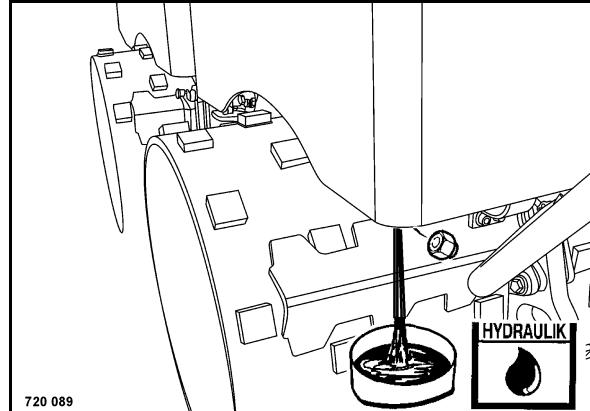

Fig. 123
- Unscrew the plug (Fig. 123) and drain off all hydraulic oil.